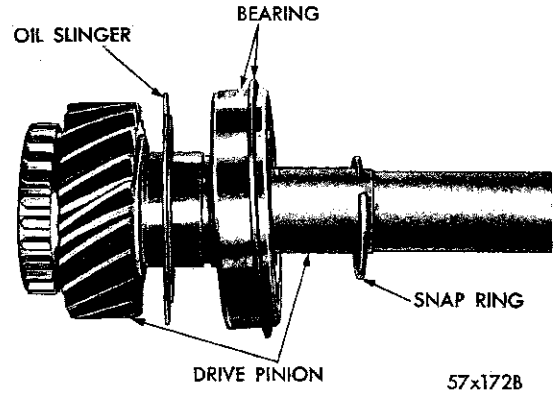

Fig. 4—Drive Pinion Assembly
- (3) Remove the snap ring which locks the main drive pinion bearing on the pinion shaft, using a snap ring pliers. Carefully press the pinion shaft out of the bearing, using an arbor press. Remove the oil slinger. (Fig. 4.)
- (4) Remove the 15 rollers from the cavity in the end of the drive pinion gear, using a hook.